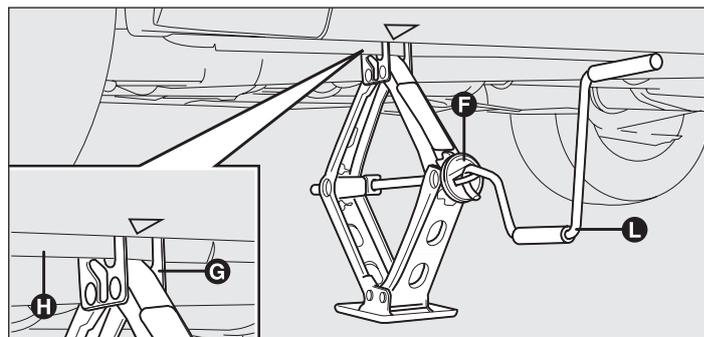

fig. 153
- operate device F-fig. 153 to extend the jack until the top of the jack G-fig. 153 fits correctly into jacking point H-fig. 153;
- fit the handle L-fig. 153 to operate the jack and lift the car until the wheel is several centimetres off the ground;
- turn the jack handle L-fig. 153 to lower the car, and remove the jack;